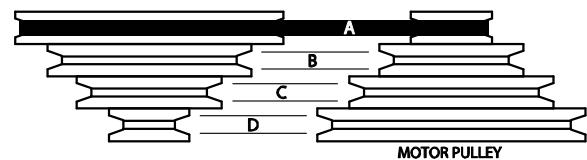

Figure 6
- Select the speed using the placard on the cover. Put the V-belt in the pulley grooves of the pulley for the desired speed. Refer to *Figure 6* for belt locations and the speeds available.
Refer to Figure 6 for the speeds recommended for various materials. These speeds, while appropriate for many common shop cutting needs, do not encompass the wide variety of special blade configurations (tooth pitch and set) and special alloys for cutting unusual or exotic materials.